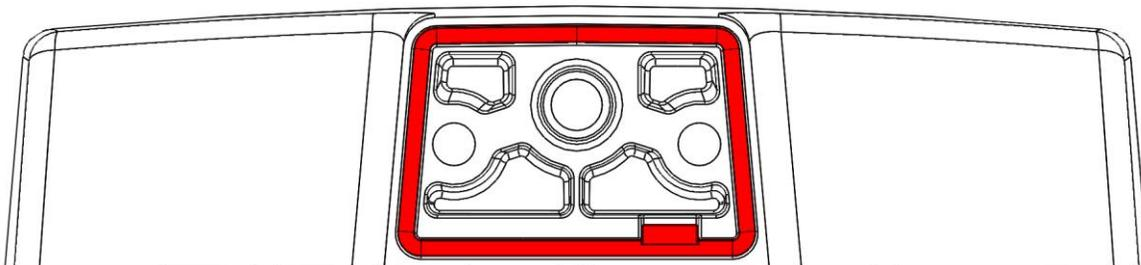

Figure 3 – RSX arm sealing gasket (red)
Step 6: Check the back of the luminaire housing to ensure the arm sealing gasket (figure 3) has not dislodged, been dirtied, or been damaged. If the gasket has been dislodged it can be gently pressed back into the groove in the housing. If the gasket appears dirty or damaged, remove it and replace it with the gasket included with the repair kit. The molded gasket matches the perimeter shape of the groove in the housing and should not be stretched for installation. Simply push the gasket into place with light pressure.